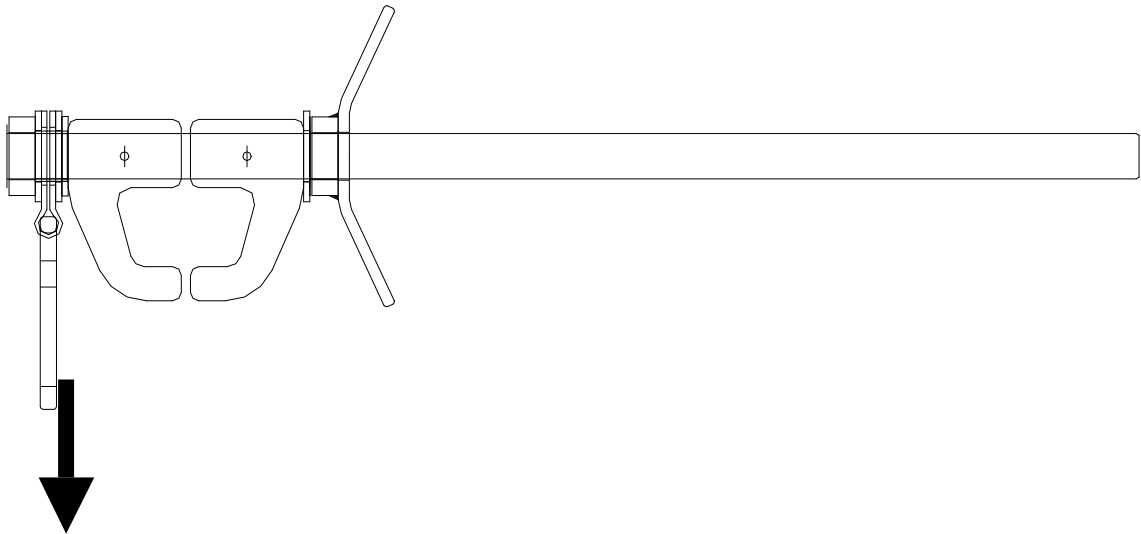

Figure 2
- When used as an end anchorage for horizontal lifelines, the lifeline may be attached to the clamp in the directions shown in Figure 2. Use only with HLL systems in which the anticipated maximum line tension does not exceed 6000 lbf.